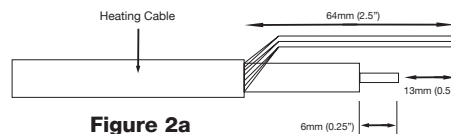
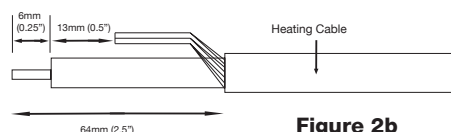

Figure 2a
Figure 2b
5. Trim the primary conductor of one of the heating cables 0.5” (12.70mm) back from the braid pigtail, (see Figure 2a) and trim the braid pigtail on the other heating cable 0.5” (12.70mm) back from the primary conductor on that connection cable (see Figure 2b) . This allows the ground braid connection to be offset from the primary conductor connection, which minimizes both the size of the repaired area and the potential for the ground connection to penetrate the primary connection.